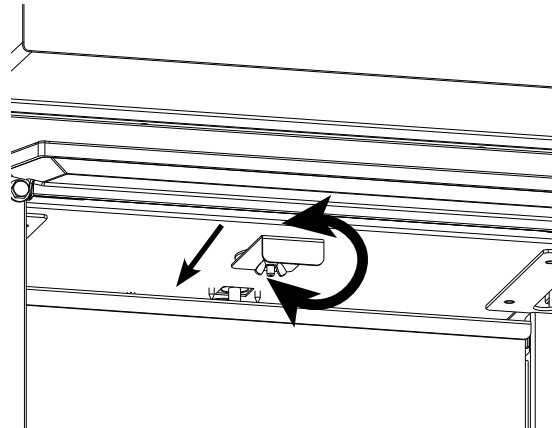

Figure 7.1.
3. Open the Controls Compartment under the firebox. If opening the Controls Compartment for the first time, loosen the Air Shutter wing nut located below the firebox floor and rotate the handle 180°. Push the Air Shutter handle as far back as it will travel. See fig. 7.1.